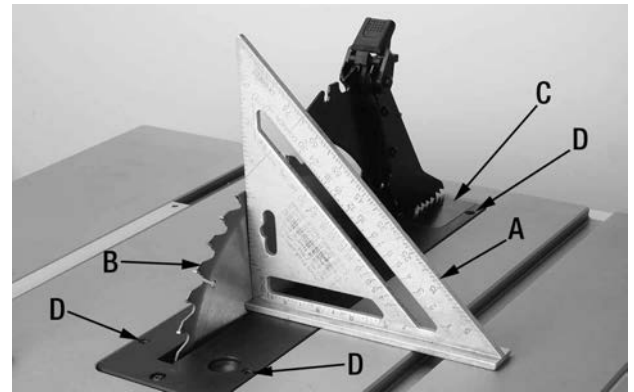

FIGURE 22
1. Place a combination square (A) Fig.22 on the table and up against the flat portion of the blade (B).
If the table insert (C) Fig.22 is not flush with the top of the table, an adjustment can be made:
1. Using the combination square as shown in Fig.22, adjust the 4 set screws (D) at each corner of the table insert, until table insert is flush with the table.